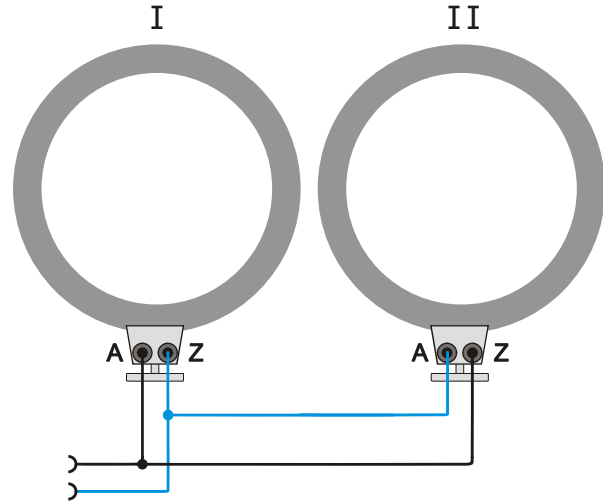

Fig. 3.2 Parallel connection
- When the coils are to be connected in parallel, connect terminal A of coil 1 to terminal Z of coil 2 and terminal Z of coil 1 to terminal A of coil 2 (refer to Fig.3.2).